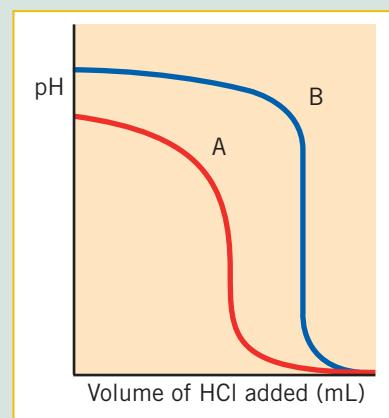

Figure 8.16 Titration curves for reaction of two different bases with HCl
- 13 The graph in Figure 8.16 shows the titration curve for the reaction of two different bases with a standard solution of hydrochloric acid.